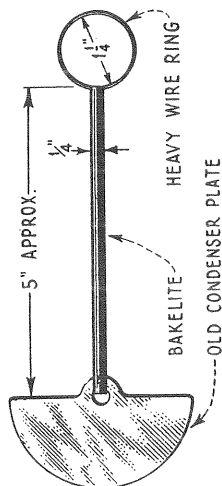

Figure 28—Tool for testing electrical alignment of gang tuning condensers
- (a) A small tool such as illustrated in Figure 28 is necessary. This may be easily constructed from an old condenser plate, a piece of wire and a bakelite rod.